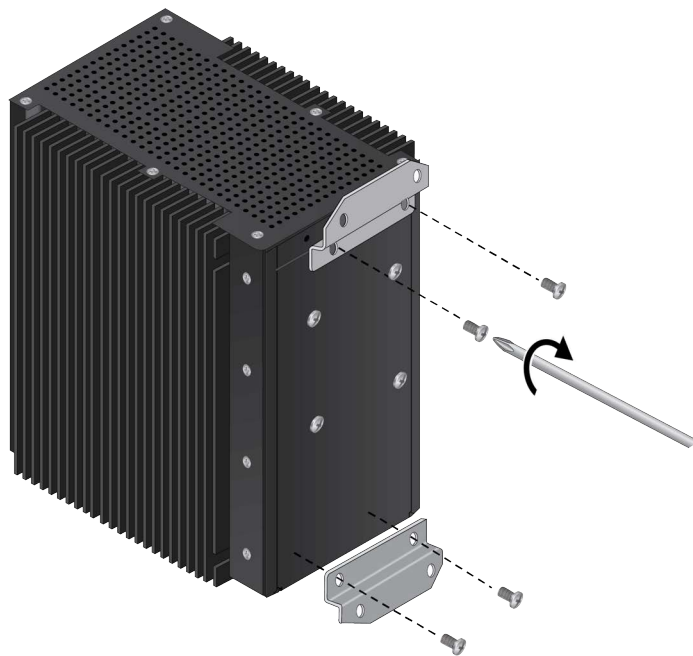

Figure 27. Installing the Wall Brackets on the Switch
5. Install the two wall brackets to the top and bottom of the rear panel with the four screws removed in the previous step or the screws in the accessory kit. Tighten the screws to 18 in-lbs. Refer to Figure 27.
5. Install the two wall brackets to the rear panel of the switch with the four screws removed in the previous step or the screws in the accessory kit. Refer to Figure 27 on page 82.